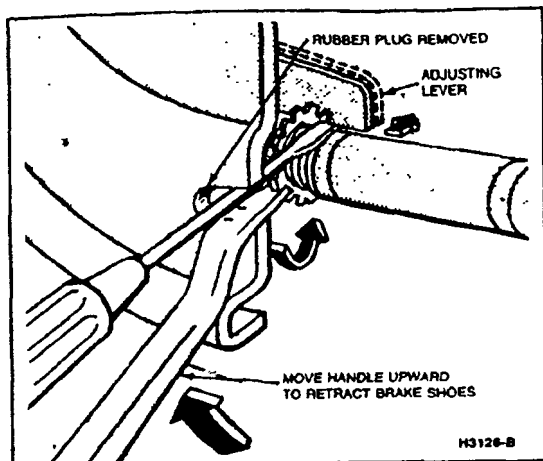

FIG. 4 Backing-Off Brake Adjustment
If the drum will not come off, pry the rubber plug from the backing plate. Insert a narrow screwdriver through the hole in the backing plate, and disengage the adjusting lever from the adjusting screw (Fig. 4).
4. While holding the adjustment lever away from the screw, back-off the adjusting screw with the brake adjusting tool (Fig. 4).
If pulling the cable does not produce the action described, or if the lever action is sluggish instead of positive and sharp, check position of lever on the adjusting screw toothed wheel (Fig. 4).